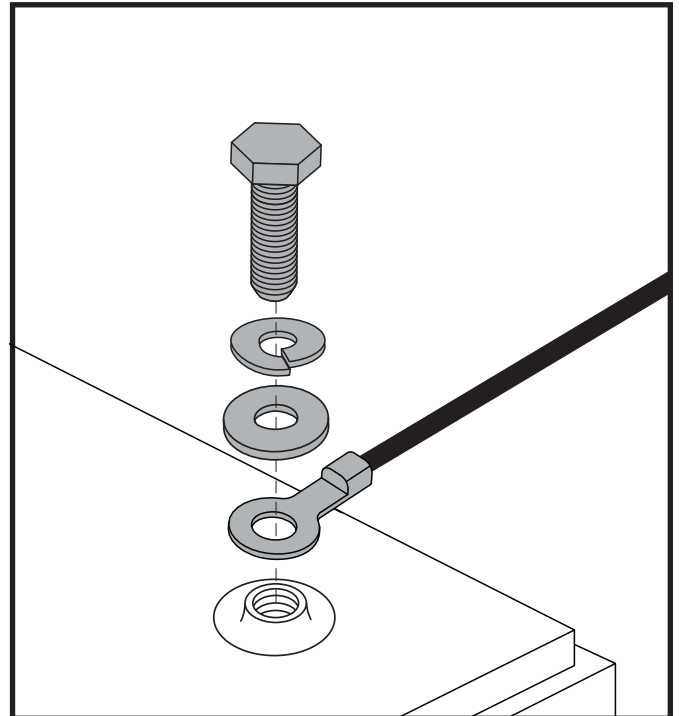

Figure 11. Battery Terminal Hardware
4. Disconnect the battery cables from the battery terminals by sliding back the terminal boots. See figure 11.
NOTE: Some scooters have spacers installed to secure the batteries. You may want to remove the spacers for safe keeping until the batteries are replaced in the scooter. See figure 11.